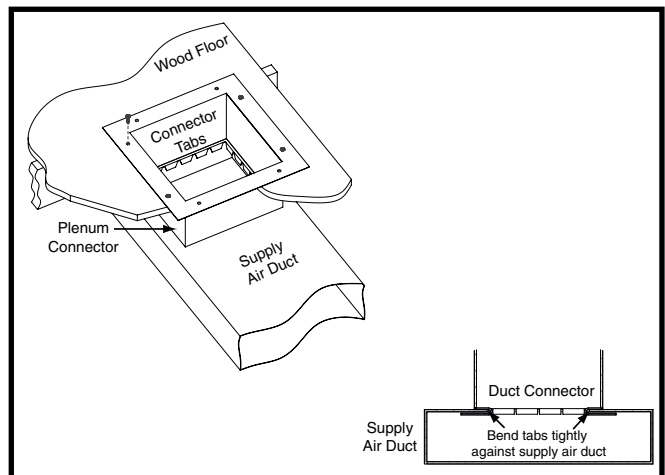

Figure 5. Duct Connector Installed
6. Install the duct connector back in the floor opening with the bottom tabs extending into the supply air duct. See Figure 5.
8. Bend the connector tabs on the bottom of the plenum connector upwards and as tight as possible against the supply air duct. See Figure 5.